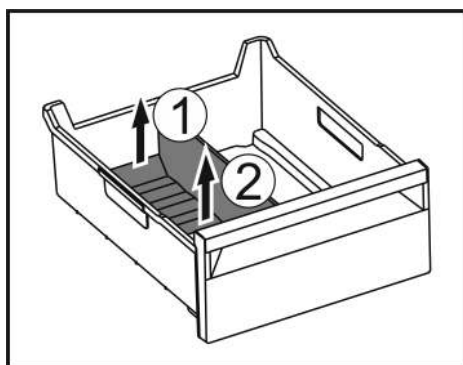

Fig. 120
- Lift the rear part of the ice compartment divider. Fig. 120 (1)
- Remove the ice compartment divider upwards. Fig. 120 (2)